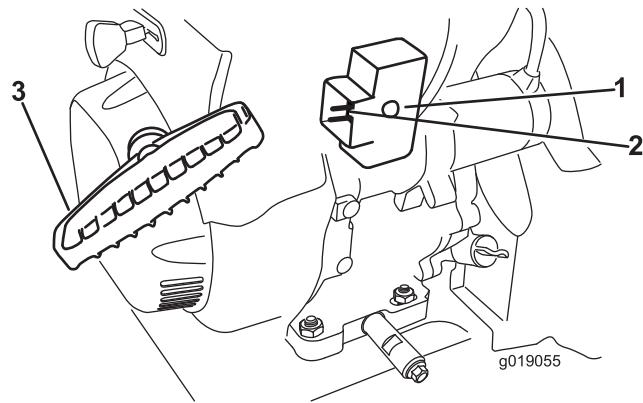

Figure 25
7. Start the machine by pulling the recoil-start handle or pressing the electric-start button (Figure 25).